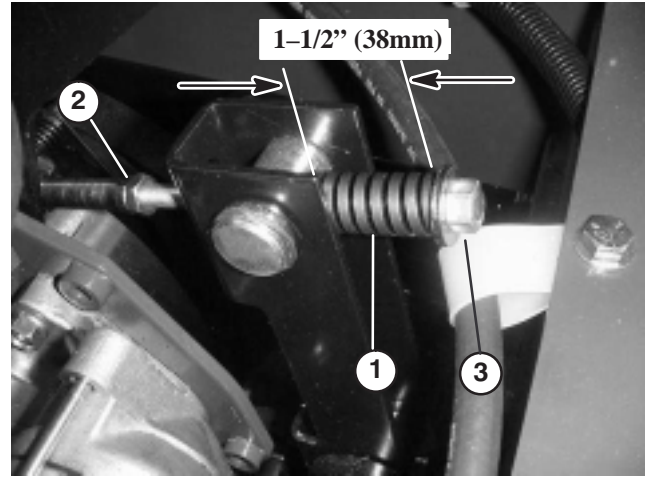

Figure 38
2. Loosen the tensioning rod jam nut (Fig. 38).
3. Use a 1/2" wrench to tighten or loosen the belt tensioning spring (Fig. 38). Adjust spring to a length of 1-1/2" (38 mm).
3. Using a 1/2" wrench, loosen the belt tensioning spring (Fig. 38) all the way.
5. Install the new PTO belt and re-tension the pulley spring to 1-1/2" (38 mm) (Fig. 38).
6. Tighten the jam nut (Fig. 38) and close the hood.